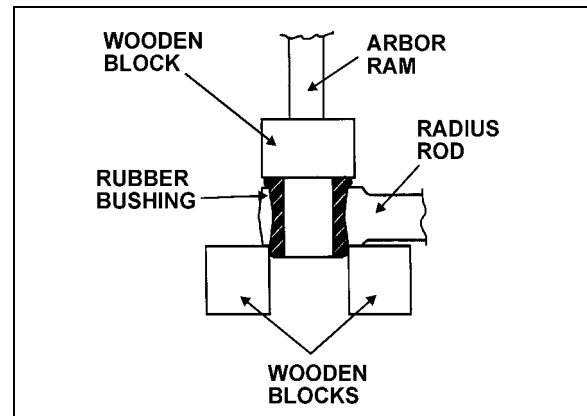

FIGURE 11: RADIUS ROD BUSHING INSTALLATION 16012
2. Safely support the radius rod, and place new bushing on top of the radius rod end (Fig. 11).